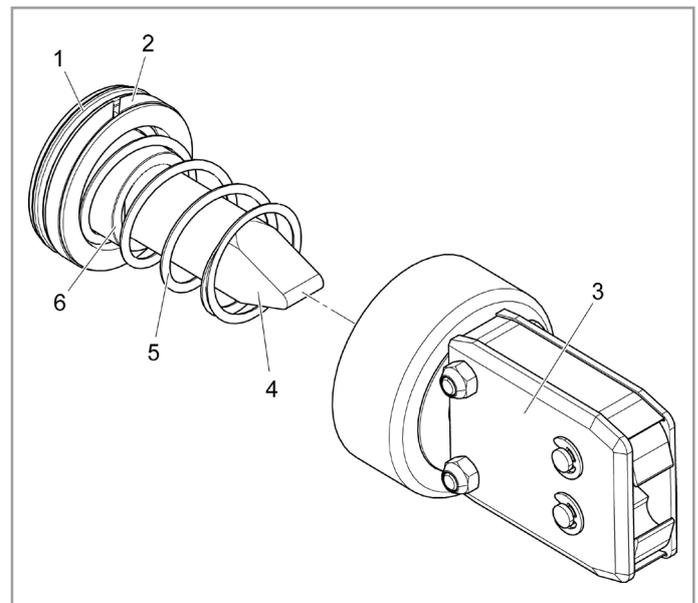

Fig. 80 Pincer head set
- Lip seal (Fig. 80/1)
- Piston ring with plunger piston (Fig. 80/2)
- Pincer head (Fig. 80/3)
- Wedge (Fig. 80/4)
- Compression spring (Fig. 80/5)
- Spacer shim (Fig. 80/6)